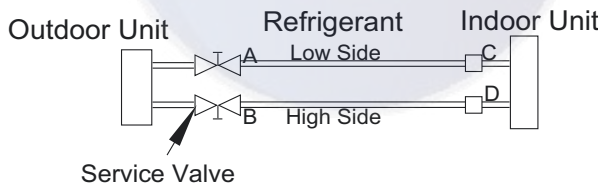

Fig. 13 — Service Valve
1. Completely tighten all flare nuts and connect the manifold gage charge hose to a charge port of the low side service valve (see Fig. 13).